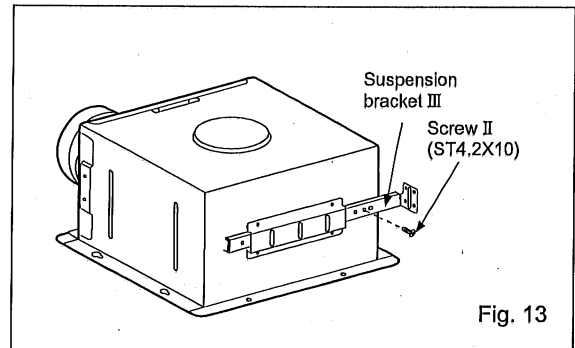

Fig. 13
2. Connect the suspension bracket III to fan body. (Fig. 13) (Select the hole by checking I-joist size fix the screw to the frame hole.)